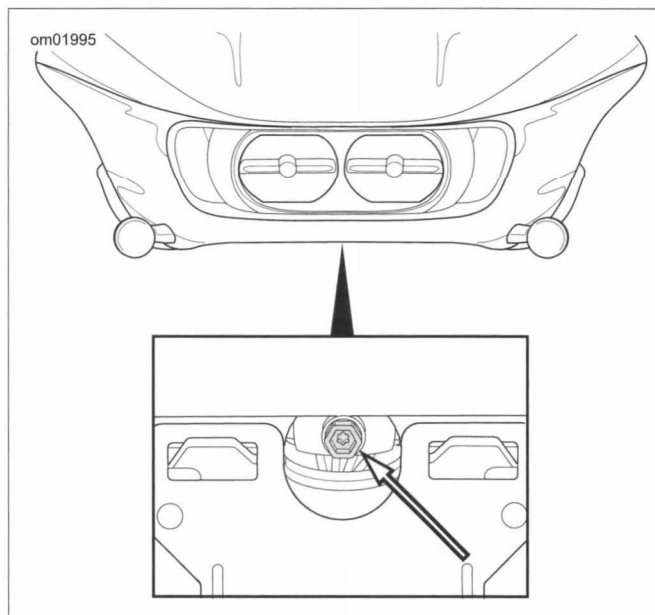

Figure 1-50. Headlamp Adjuster: FLTRU, FLTRX, FLTRXS
3. **Frame-mounted fairing models:** See Figure 1-50.